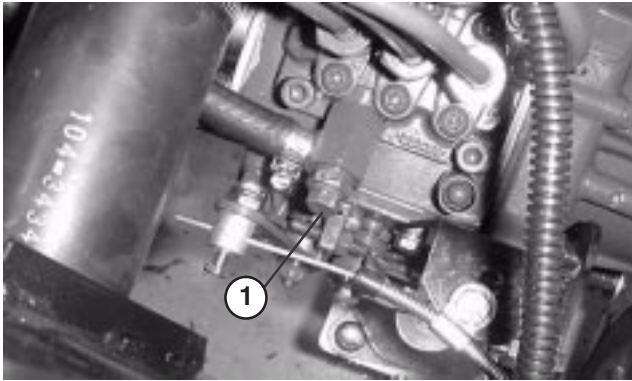

Figure 31
3. Open the air bleed screw on the fuel injection pump (Fig. 31).